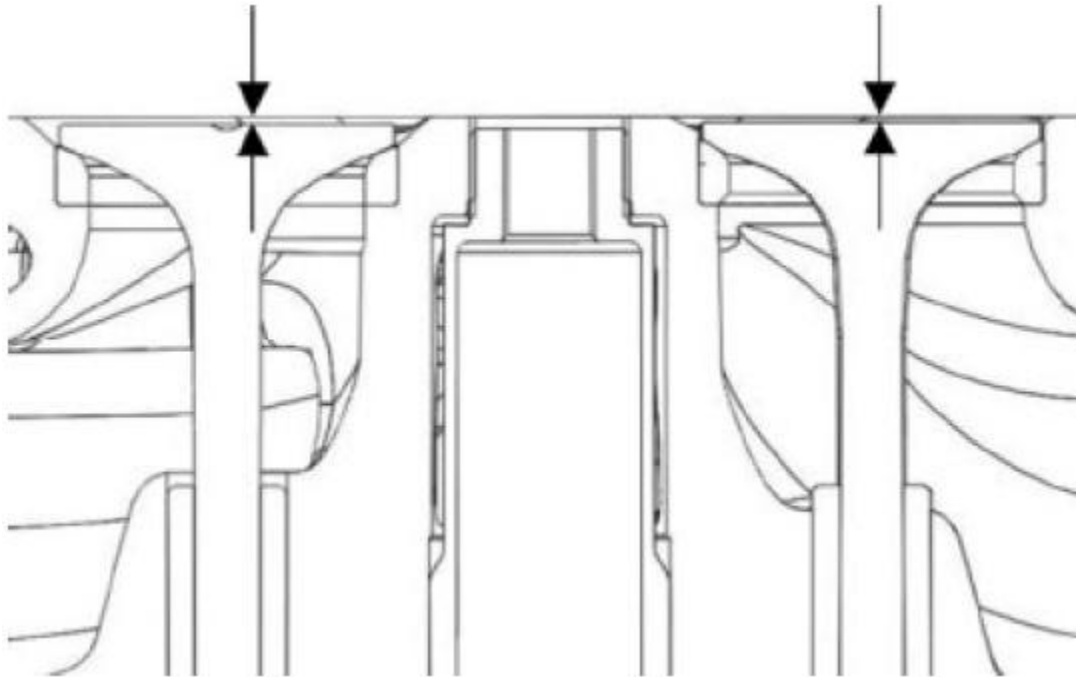

Figure 56. Valve Recession Check
5. Insert the valves into their original locations and press them down until they are fully seated. Use a depth micrometer (Figure 56) to measure the difference between the cylinder head gasket surface and the combustion surface of each exhaust and intake valve. See Cylinder Head specification chart for the service limit.